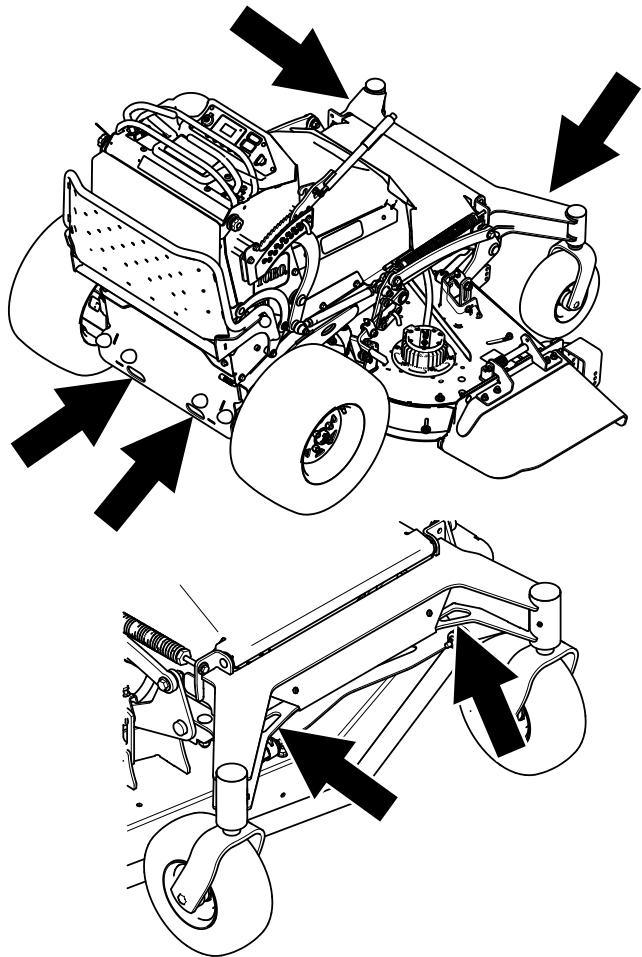

Figure 38
7. Tie down the machine near the front caster wheels, or front frame holes, and the rear bumper holes with straps, chains, cable, or ropes (Figure 38). Refer to local regulations for tie-down requirements.